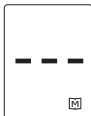

Figure 17
If you do not want to clear the memory, press the **"SET"** button to skip this step. If you want to clear ALL memory, press and hold the **"M"** button for five (5) seconds. **"- - -"** will appear to indicate all memory has been deleted. See Figure 17.